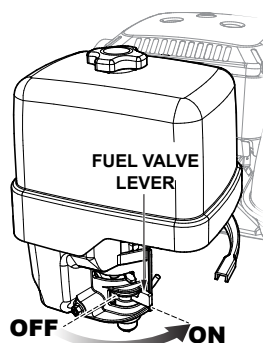

Figure 18. Fuel Valve Lever (ON)
1. Place the fuel valve lever (Figure 18) in the **ON** position.